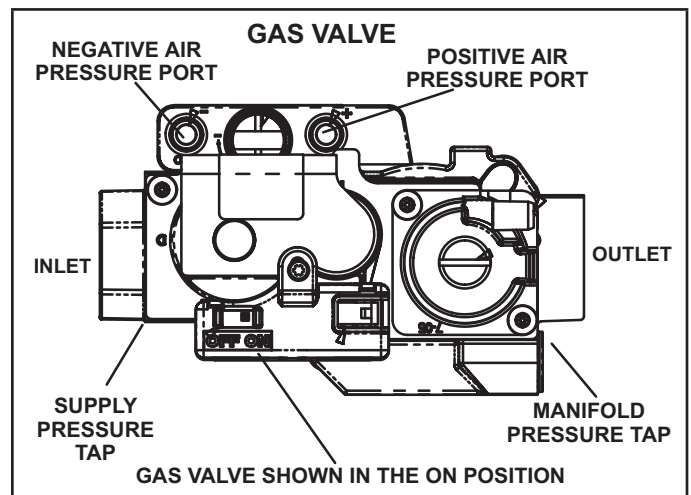

FIGURE 49
### Gas Valve Operation (FIGURE 49)
- 6 - Move the gas valve switch to the OFF position. See FIGURE 49.
- 8 - Move gas valve switch to the ON position. See FIGURE 49. Do not force.
When testing supply gas pressure, connect test gauge to supply pressure tap on the gas valve. See FIGURE 49. Check gas line pressure with unit firing at maximum rate. Low pressure may result in erratic operation or underfire. High pressure can result in permanent damage to gas valve or overfire. See TABLE 28 for operating pressure at unit gas connection (line).